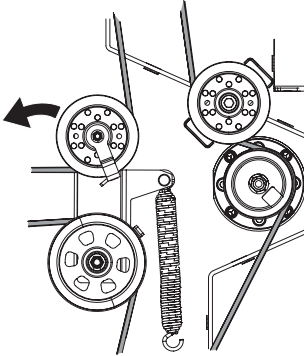

Figure 47
9. Pull the right side of the PTO belt rearward and place the narrow "V" side of the PTO belt into the PTO pulley (Figure 47).